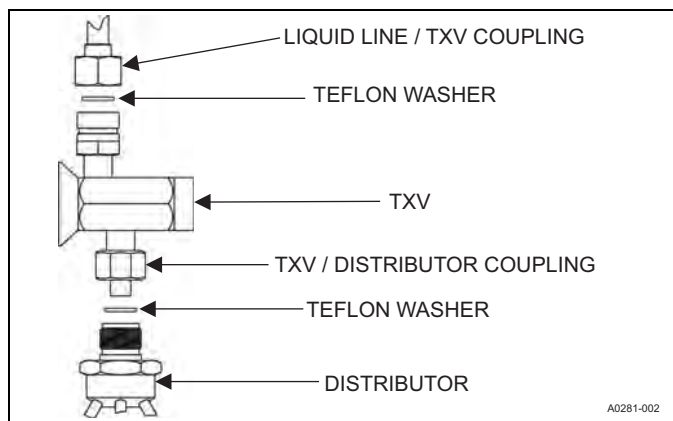

FIGURE 1: TXV Installation
4. Install TXV on distributor assembly with supplied fittings. Ensure Teflon washer is seated in distributor. Hand tighten and turn an additional 1/4 turn to seal. Do not overtighten fittings. See Figure 1.